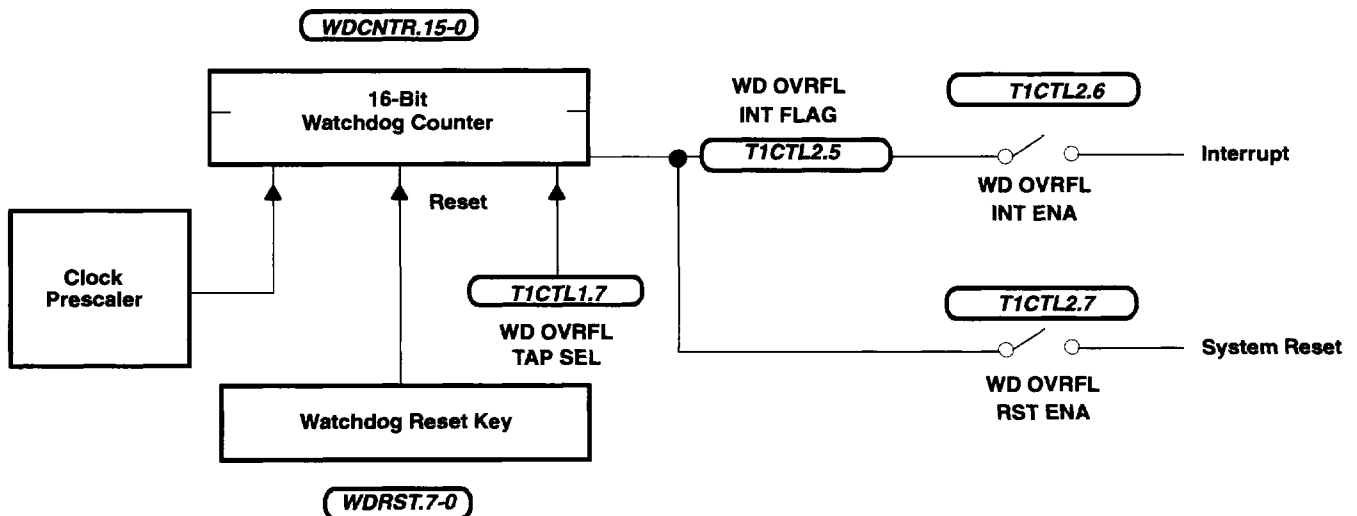

Figure 8. Standard Watchdog
- Standard watchdog configuration for mask-ROM devices only (see Figure 8)